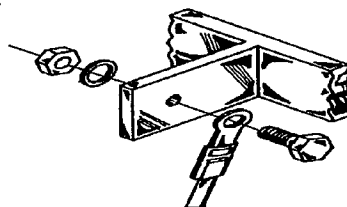

Fig. 5 Vehicle frame connection
6. Attach the negative (black) wire to the negative battery terminal thru-bolt. If you are using car battery, simply connect the black wire to an already grounded component (**see Fig. 5**). Such as vehicle frame, bumper etc.